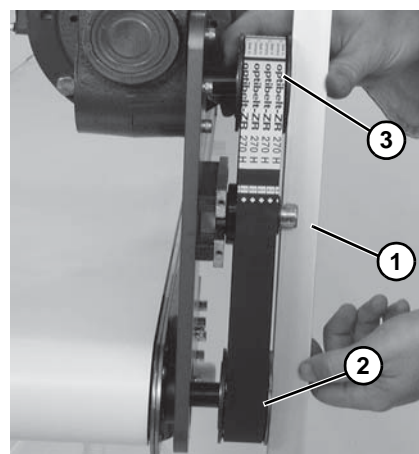

Figure 10
7. Using a straight edge (**Figure 10, item 1**), align driven pulley (**Figure 10, item 2**) with drive pulley (**Figure 10, item 3**).